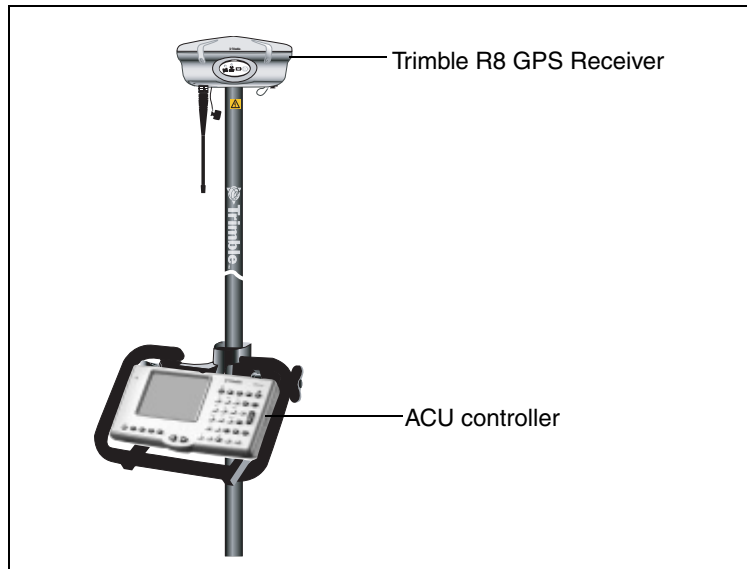

Figure 13.3 Trimble R8 receiver pole-mounted setup
Figure 13.3 shows the pole-mounted setup for the Trimble R8 receiver. To mount the receiver on a range pole:
4. If using the TSC1™, connect the data-i/o cable from Port 1 of the receiver to a port on the TSC1. If using the Trimble ACU, or TSCe with Bluecap module, no cabling is required, as shown in Figure 13.3.